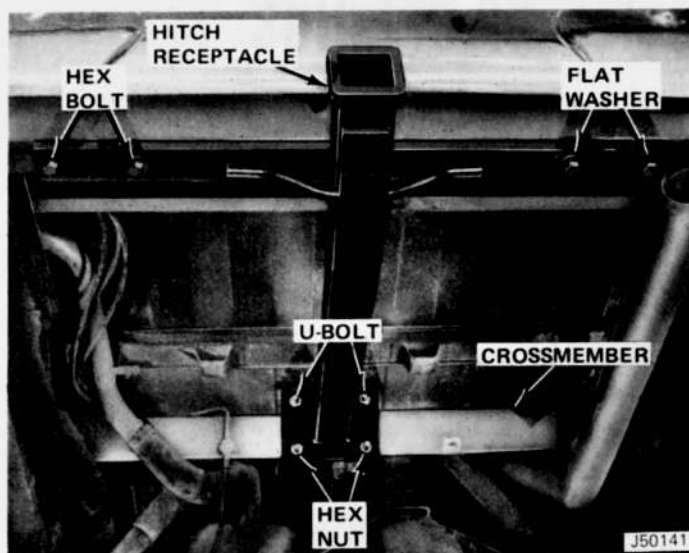

Fig. 8-3 Class III Equalizing Hitch Receptacle Installed
- (1) Remove spare tire and mounting brackets from vehicle.
- (2) Position hitch receptacle on vehicle (fig. 8-3). Be sure that hitch is centered and that mounting holes are aligned.
- (3) Install U-bolts, lockwashers, and hex nuts. Tighten nuts to 75 foot-pounds torque.
- (4) Install 1/2-1 x 1-3/4-inch hex-head bolts, flat washers, lockwashers, and hex nuts. Tighten nuts to 75 foot-pounds torque.
- (5) Install spare tire inside vehicle.